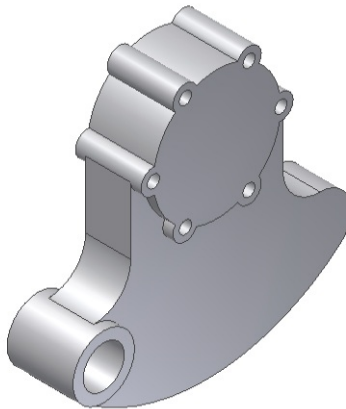

Figure 6-140 Model after creating the hole on the join feature
- Create the cylindrical join feature and then create a hole in it, refer to Figure 6-140.
5. Modify the value of the diameter of the hole in the preview window to **20**. Choose **OK**; the dialog box is closed and a hole is created. The model after creating the hole on the join feature is shown in Figure 6-140.